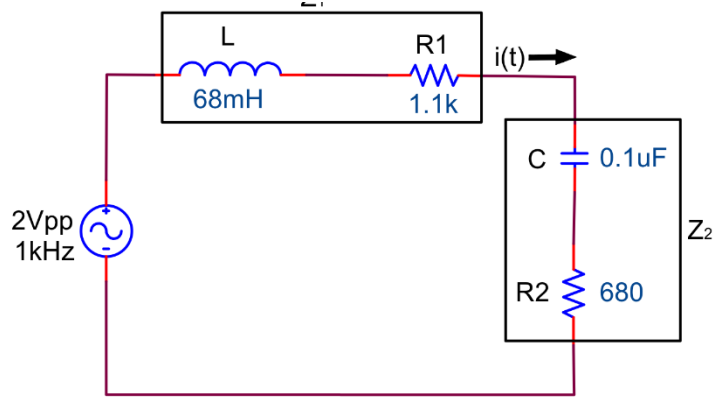

Figure 12.5
1. For the circuit of Figure 12.5, calculate Z_1 , Z_2 , and Z_s , the impedances of the series R-L, the series R-C, and the entire circuit, respectively.